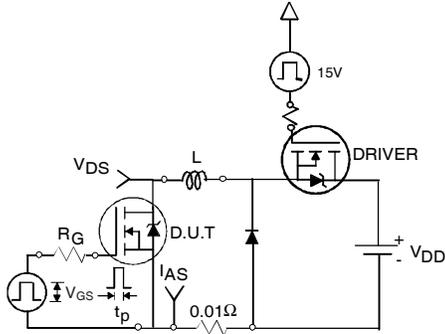

Fig 12a. Unclamped Inductive Test Circuit
- ③ Pulse width $\leq 400\mu s$; duty cycle $\leq 2\%$.
- ④ $C_{oss \text{ eff.}}$ is a fixed capacitance that gives the same charging time as C_{oss} while V_{DS} is rising from 0 to 80% V_{DSS} .
- ⑤ Limited by T_{Jmax} , see Fig.12a, 12b, 15, 16 for typical repetitive avalanche performance.
- ⑥ This value determined from sample failure population. 100% tested to this value in production.
3. Equation below based on circuit and waveforms shown in Figures 12a, 12b.